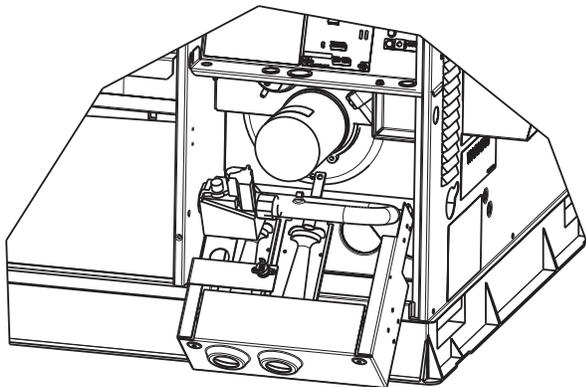

Fig. 25 - Burner Rack Removed
3. Slide the assembly out of the unit. (See Fig. 25). Clean the blower wheel. If additional cleaning is required, continue with Steps 4 and 5.